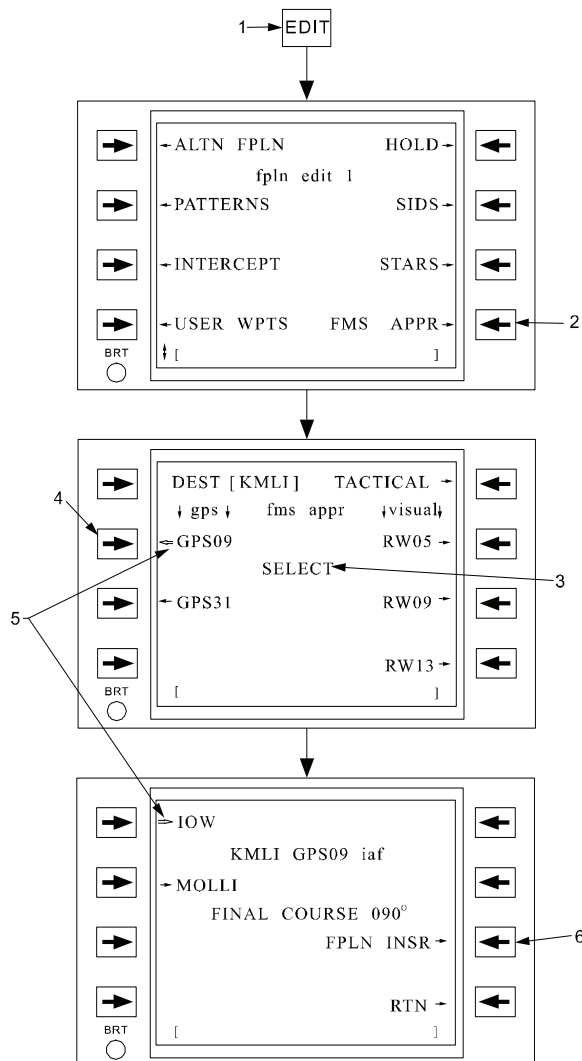

Figure 3B-78. Defining an Approach
(3) To select an FMS approach for use in the active flight plan, press the **EDIT** function key on the CDU and then select **FMS APPR** line key to access the FMS APPR selection page. Refer to Figure 3B-78 and Table 3B-58. Three types of FMS approaches may be selected: GPS, Visual, or Tactical. To select either a published GPS or runway visual approach enter the Destination (DEST) airport identifier at the top of the page (also entered on the working copy STAR definition). This calls up a listing of available GPS approaches and runways for that airport. To select a user defined tactical approach, no airport identifier is required, select the **TACTICAL** line key.